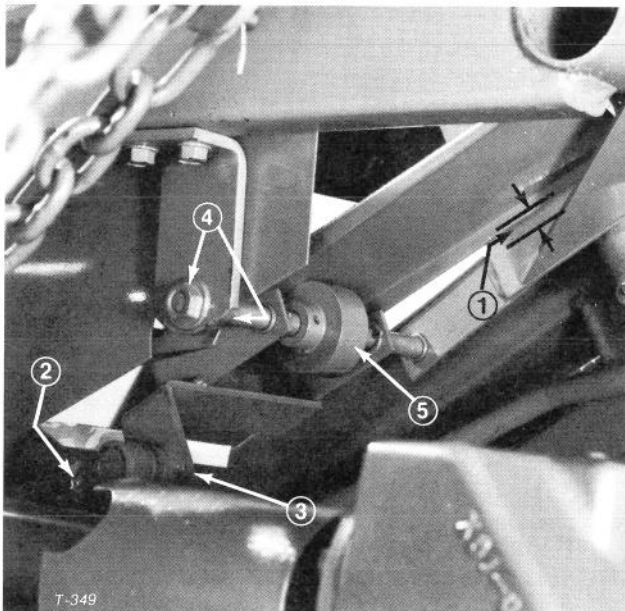

Figure 51
2. Depress traction pedal fully. There must be 1/16 inch (1.6 mm) between inside front edge of pedal and triangular support brace (Fig. 51). If distance is as specified, the control rod is adjusted correctly. If distance is not as specified, proceed to step 3 for an adjustment.
3. Loosen jam nut away from front of control rod (Fig. 51). Remove cotter pin and slotted nut retaining tapered socket in pivot mount on bottom of traction pedal (Fig. 51).
1. Loosen two nuts securing traction pedal shaft on right side of pedal (Fig. 51).